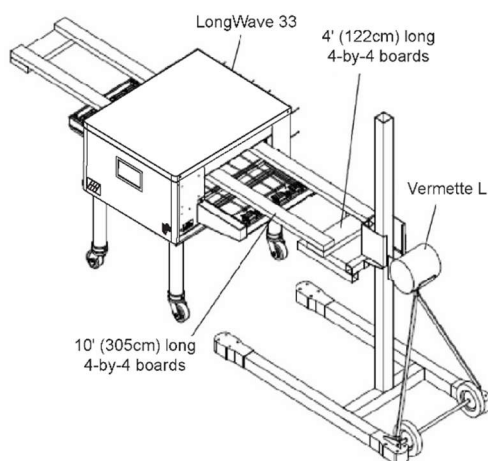

Figure 18.
3. Slide the two 10' (305cm) long 4-by-4 boards through the oven cavity. The boards should be sticking out of the oven equally on both sides. One of the boards should be placed to the rear of the oven and the other in the front of the oven. See Figure 18.
4. Position the two Vermette lifts on opposite ends of the oven under the 10' (305cm) boards, making sure the legs with wheels are up as close as possible to the skid. Place the two 4' (122cm) long 4-by-4 boards across the two Vermette forks, at least 6" (15cm) in from the end of the forks, and centered with the 10' (305cm) boards running through the oven cavity. See Figure 18.
- Slide the two 10' (305cm) long 4-by-4 boards through the oven cavity. The boards should be sticking out of the oven equally on both sides. One of the boards should be placed towards the rear of the oven and the other in the front of the oven. See Figure 18.
least 6" (15cm) in from the end of the forks, and centered with the 10' (305cm) boards running through the oven cavity. See Figure 18.